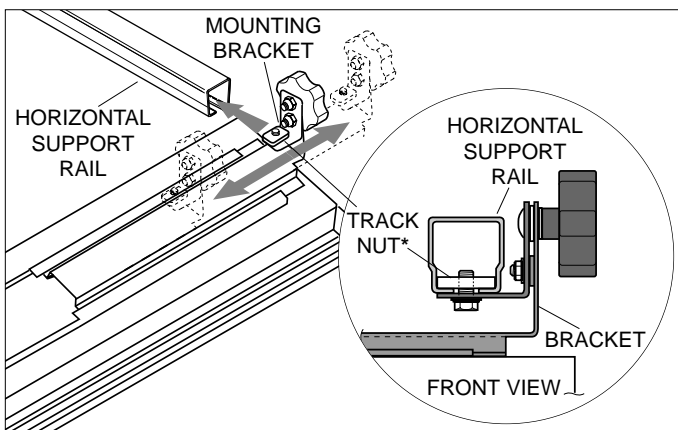

Figure 1-Bracket Detail
4. Loosen track nuts* and slide into support rails (Fig. 1).